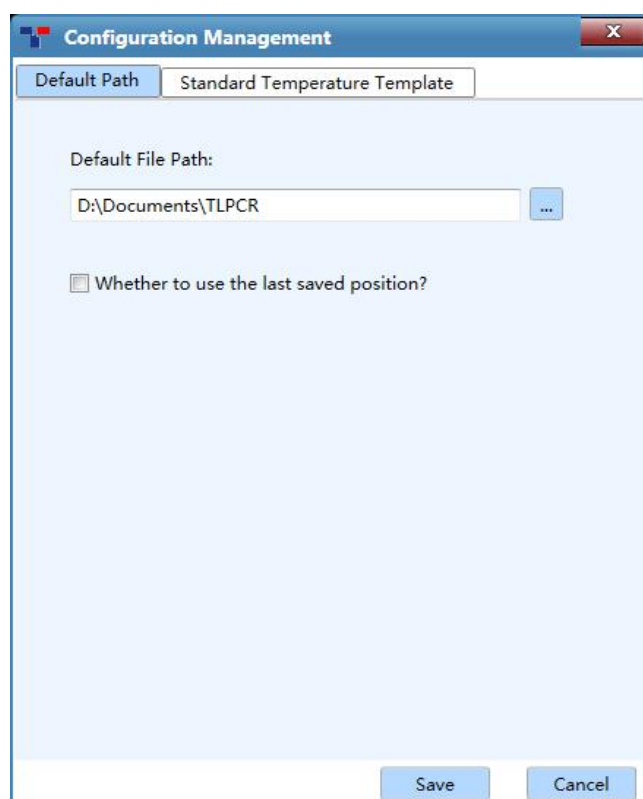

Figure D-3.5 Option submenu - Configuration Management interface - Default Path tab
1. **Configuration Management:** Click **Configuration Management** option in the **Option** submenu and the application software will automatically pop up the configuration management interface, as shown in figure D-3.5.
- **Default Path** tab: the configuration management interface displays the **Default Path** tab by default, as shown in figure D-3.5.